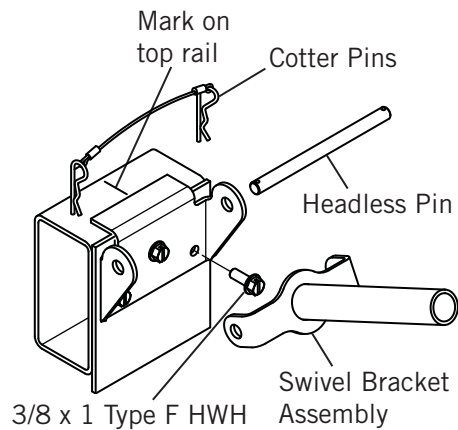

Figure 30
- 2) Figure 30.** Drill a pilot hole and attach with 3/8 x 1 type F HWH bolts. Repeat for opposite side.
- 3) Figure 30.** Attach swivel bracket assembly to base with headless pin and cotter pins.